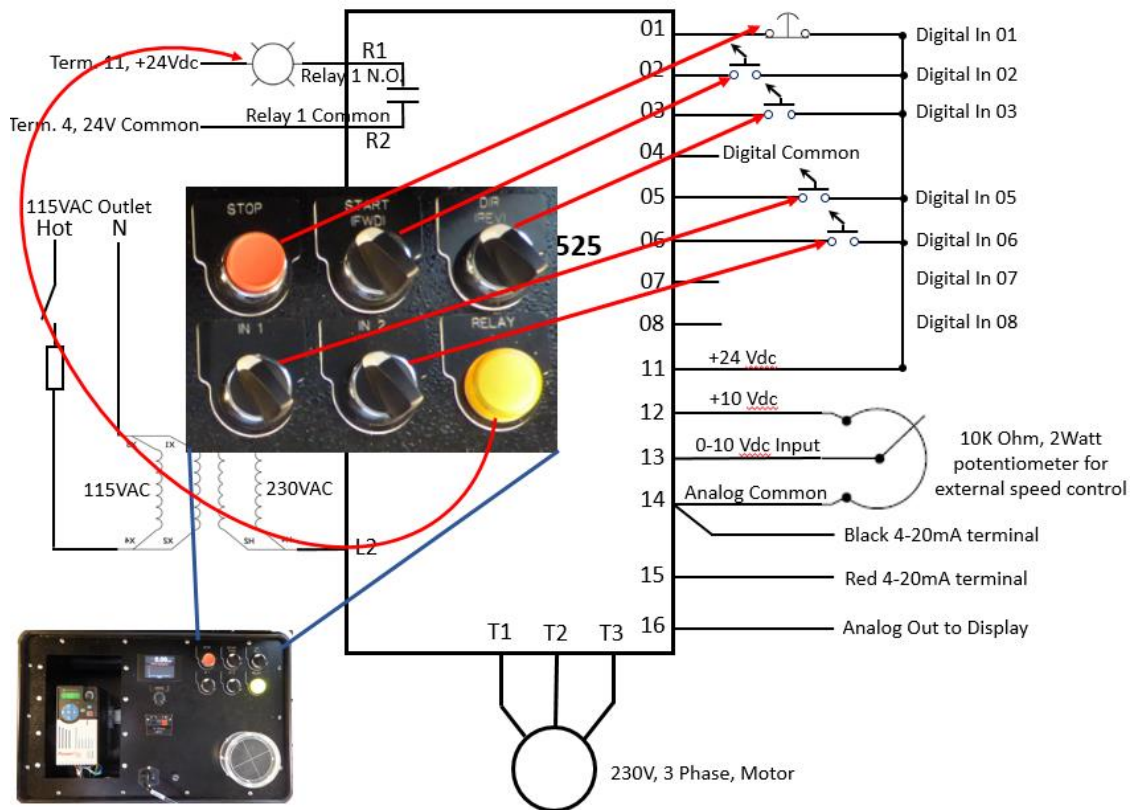

Figure 3. Which inputs terminals the devices are wired to.
- Navigate to parameter b013, then push the Enter key to view the data within the parameter. This should show the status of the 3 control inputs, as shown in Figure 3. Digital Input 1 is always the stop pushbutton, Digital Input 2 is always the start pushbutton (though it has a selector switch wired to it), and Digital 2 is always the reverse direction input.